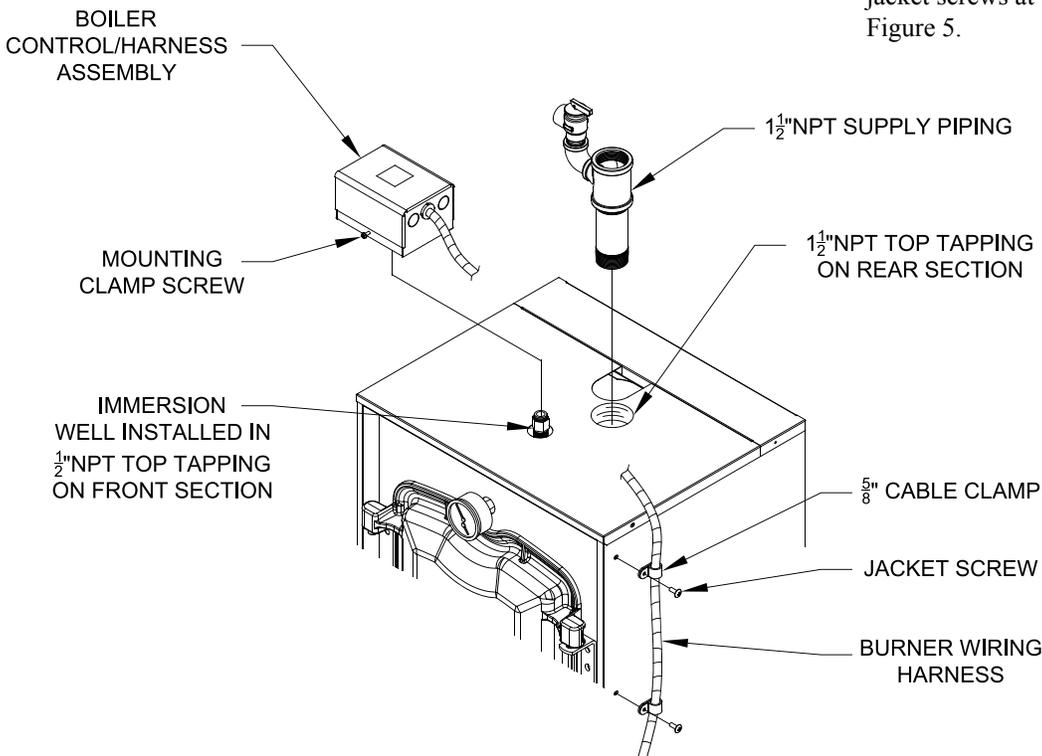

Figure 5: Supply Piping and Aquastat Control Assembly Details
Open miscellaneous parts carton and remove contents. Identify the components using the illustrations (see Figure 5) throughout the assembly sequence outlined below as it applies to your installation.
- a. Locate the Boiler Control/Harness Assembly in the Miscellaneous Parts Carton. Loosen mounting clamp screw on front of Control. Mount Control on factory installed immersion well located in top tapping near front of boiler with burner harness on the right hand side; see Figure 5.
- b. Locate (2) 5/8" cable clamps in parts carton. Secure burner wiring harness to front of jacket right side panel with cable clamps and existing jacket screws at top and mid-point as shown in Figure 5.